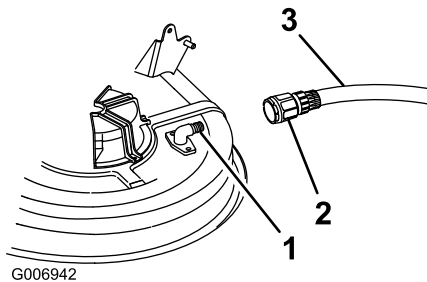

Figure 42
4. Attach the coupling (not included) to the mower washout fitting and turn the water on high (Figure 42).